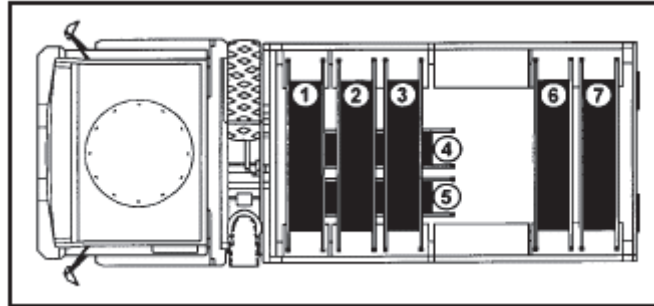

Figure 3-16. Load an M-1081
4. Direct nonmedical Soldiers to load an M-1081. (See Figure 3-16.)